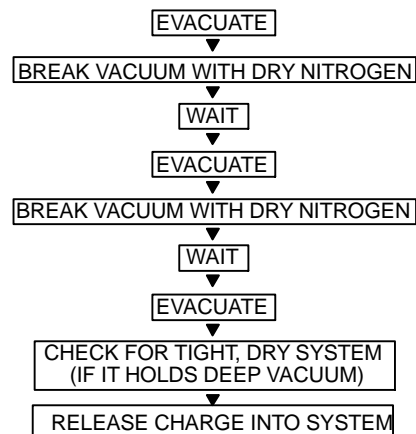

Fig. 16 – Triple Evacuation Method
The triple evacuation method should be used. Refer to Fig. 16 and proceed as follows:
5. Repeat this procedure as indicated in Fig. 16. System will then be free of any contaminants and water vapor.